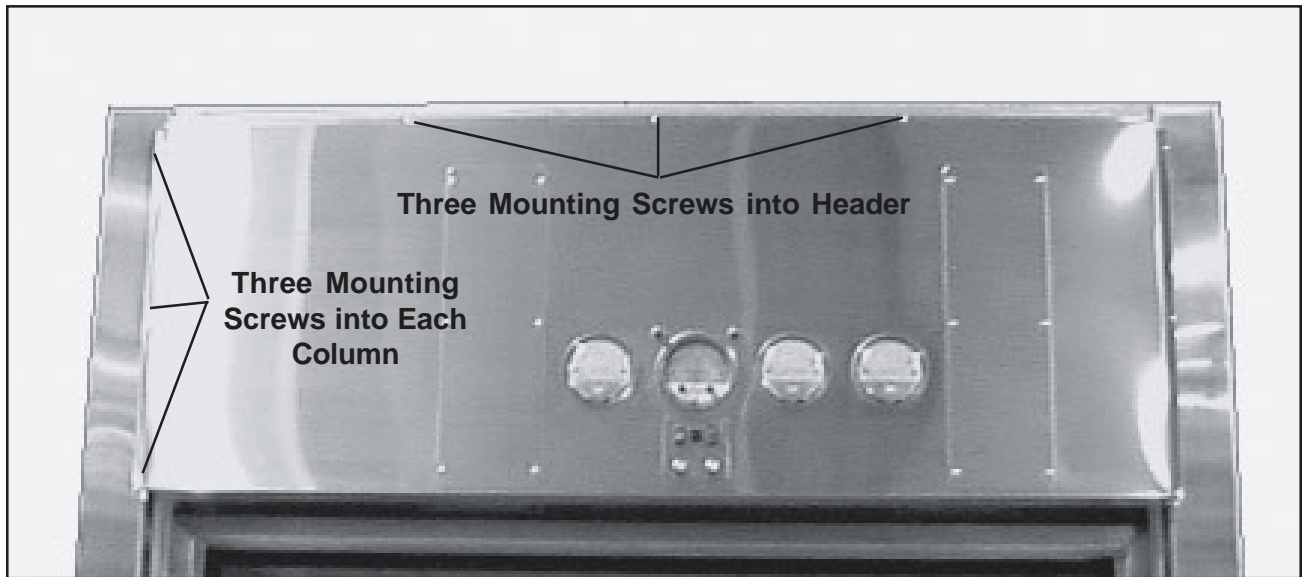

Figure 43. Mounting Location for Front Panel
7. Hold the top panel in place against the front of the header and columns (Figure 43).